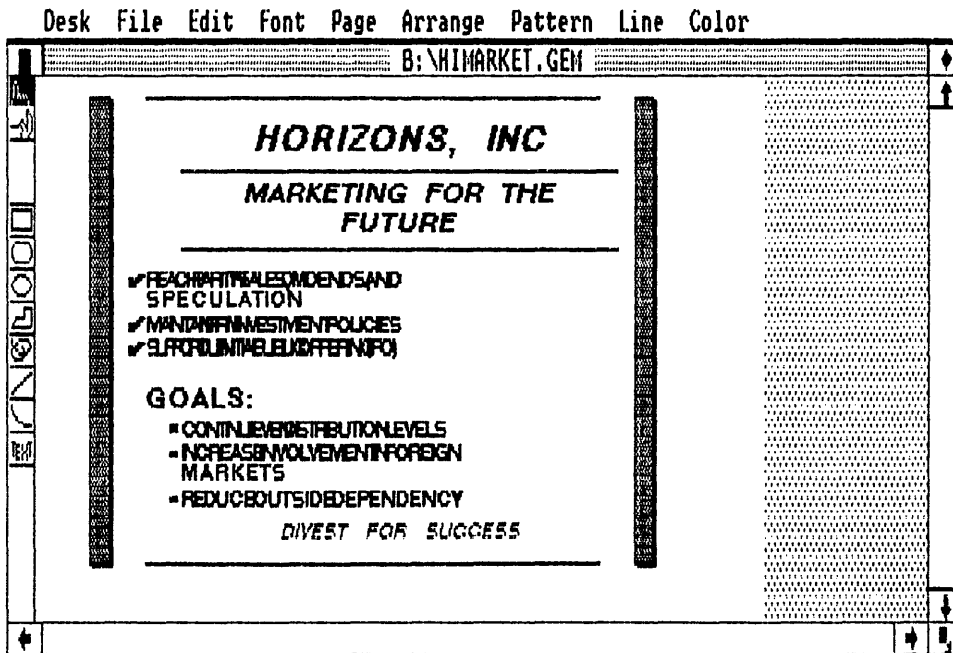

Fig. 6-9. GEM Draw can be used for enhancing a wordchart. Notice how the text is mishandled by GEM Draw.
- ☐ Modify the wordchart (Fig. 6-9).